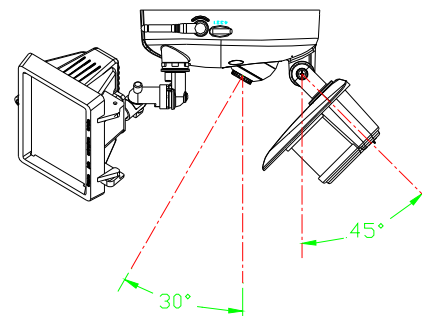

FIGURE 5
- The suggested swiveling angle of camera and PIR are outlined hereunder: (FIGURE 5)